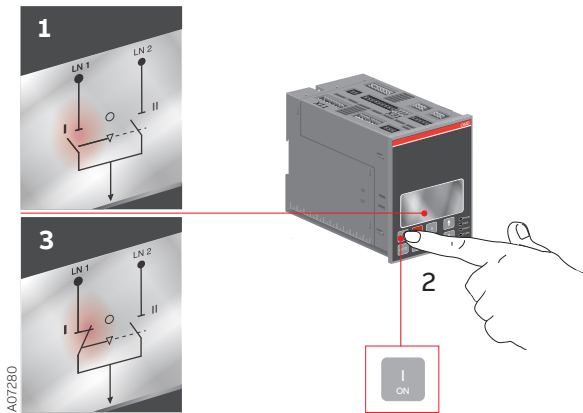

Figure 6.2 Selecting the switch to operate, the switch status and the chosen line indication in display terminal in OMD800
- b. When pushing the I-key (see the Figure 6.2/②), the I-switch will be in the ON position (the status and the line indication, see the Figure 6.2/③) and the II-switch will be in the OFF position.